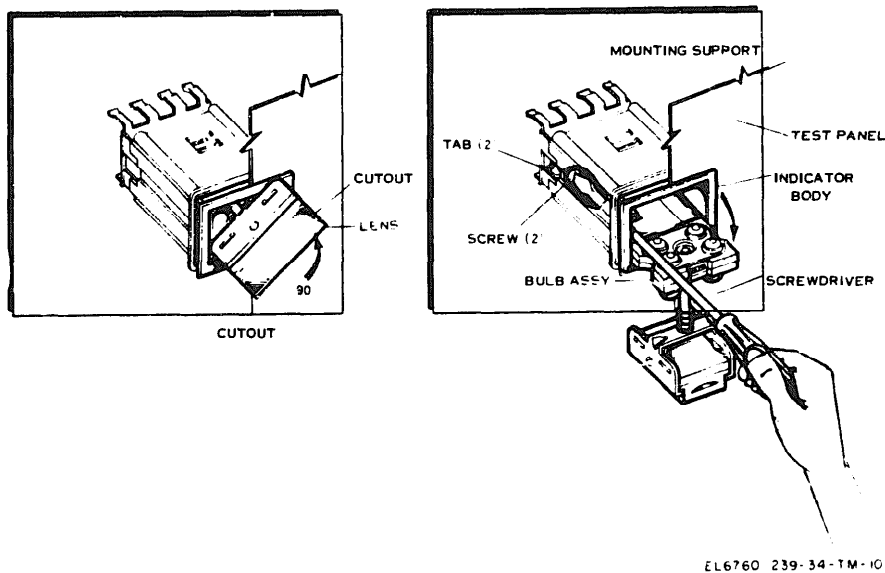

Figure 3-3. Replacement of indicator lamp assembly.
a. Replacement of Indicator Lamp Assemblies (fig. 3-3). To replace any front panel indicator lamp assembly, proceed as follows:
- (1) Set POWER switch to OFF.
- (2) Disconnect power cable W9 from POWER connector J1.
- (3) Remove 14 screws (1) and remove test panel (48) from combination case (47).
- (4) Unsolder and carefully mark or tag all electrical connections to indicator lamp assembly.
- (5) Insert fingernails in cutouts in lens assembly (fig. 3-3) and pull lens away from indicator body.
- (6) Rotate lens 90 degrees counterclockwise, push in slightly to remove tension on index key, and pull complete bulb assembly to stop on indicator body.
(7) Using screwdriver, loosen two screws on inside of indicator body by rotating counterclockwise until screw tabs are loose, and free mounting support
(8) Slide mounting support from test panel in direction of arrow.
(9) Remove indicator body from front panel.
(10) Replace the indicator assembly by reversing steps (4) through (8).